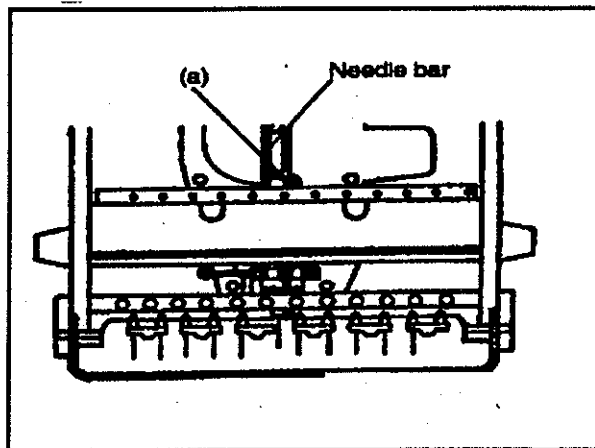

FIG.6
- (1) If the needle socket stuck in the chuck plate, slightly loosen the retaining screw (a) and rotate the needle bar to the left or right with the M6 spanner(Fig.6).